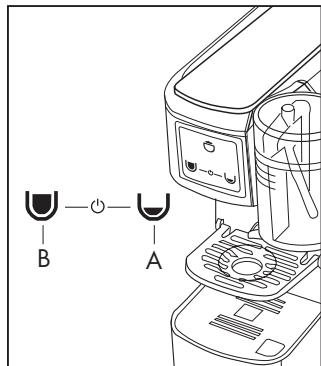

Fig. 4
- Switch on the machine by pressing one of the symbols (A) or (B) or simultaneously the 2 symbols (A) and (B) (**Fig.4**).
- The buttons on the control panel (2) will start to blink; when they appear with a fixed light the machine is ready for use (**Fig.4**).
- Check there are no capsules inside the machine and that there is water in the tank (8); switch on the machine by pressing one of the symbols (A-B) or simultaneously the 2 symbols (A-B) (**Fig.4**).
- Close the small cup support (9) and place a large empty cup under the opening for dispensing (4).